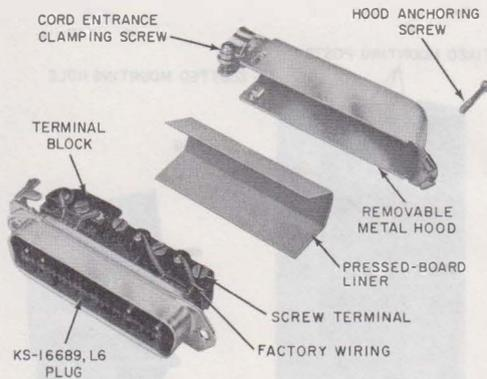

Fig. 10—153A Adapter
- A removable metal hood (Fig. 10) with a pressed-board liner contains and protects spade-tipped cord leads or wire conductors terminated beneath the screw terminals.